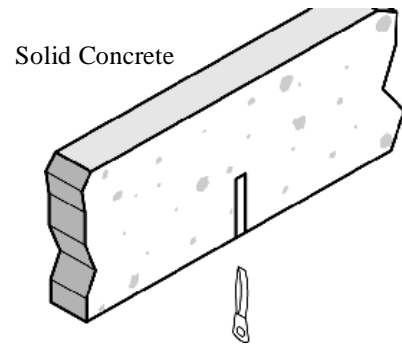

Figure 5. Anchoring in Concrete
1. Drill four 1/4-in. dia. holes 1-3/8 in. deep (6-mm dia. holes, 36 mm deep). Use ANSI B94.12-1977 carbide bit (see Figure 5).